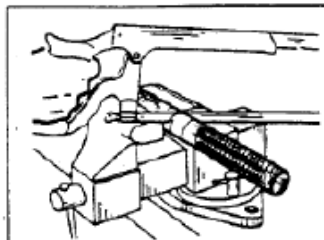

Figure 2
3. Install the socket on the hose with the threaded end of the socket toward the cut end of the hose. This will be a lot easier and you will end up with fewer holes in your fingers if you hold the socket in a vise. Push the socket well beyond the end. **(Figure 2)**